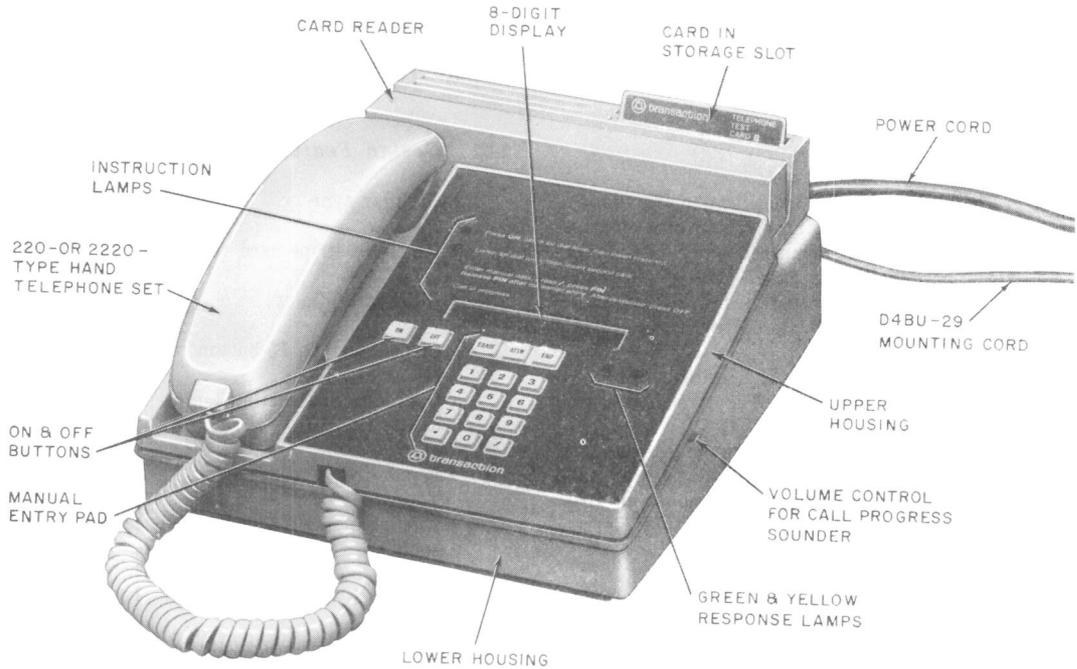

Fig. 1—5100AM Transaction II Telephone Set Base Equipped With 220- or 2220-Type Hand Telephone Set
2.01 The 5100AM Transaction telephone set base, equipped with a 220- or 2220-type hand telephone set (Fig. 1) provides the standard features of a single line rotary or TOUCH-TONE® telephone set.
It can also automatically dial and electronically transmit information read from a magnetic stripe on a credit card, or keyed on a 15-button manual entry pad (Fig. 1), to a data center for immediate credit authorization, check verification, or inventory control. In addition, it is possible for a transaction to be accomplished in a hands-free mode.